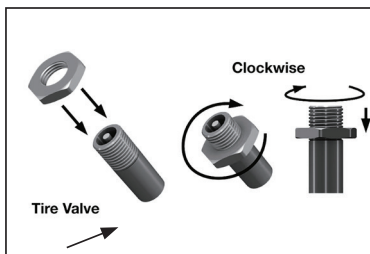

Figure 1
1. Screw down the lock-nut on the tire valve stem (Figure 1). Tighten by hand ONLY.